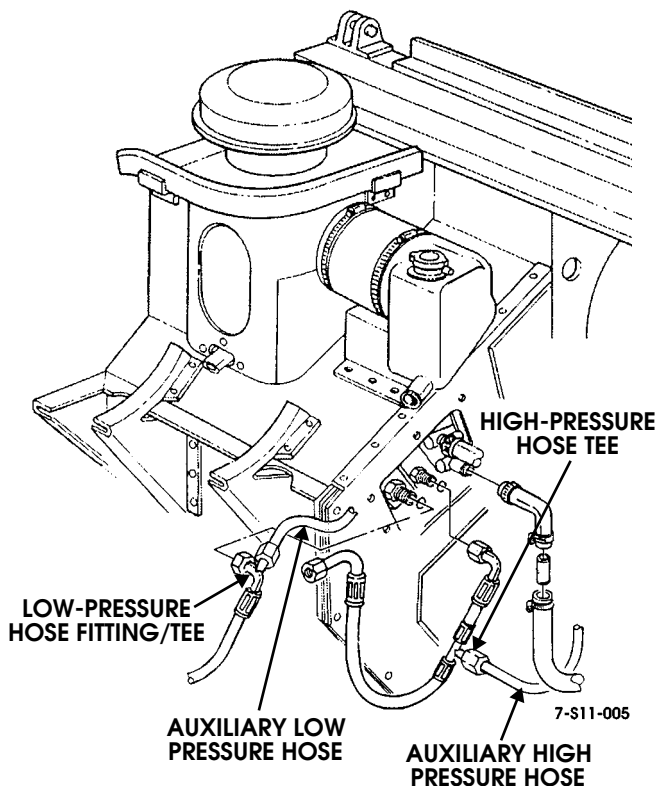

Figure 11-41: High Pressure Hose
5. Using two wrenches to equalize support, remove auxiliary high-pressure hose from high pressure hose tee. Remove and discard O-ring (Figure 11-41).
3. Route other end of hose to high pressure hose tee (Figure 11-41).
3. Using two wrenches for equalized support, remove auxiliary low-pressure hose from low-pressure hose fitting. Remove and discard O-ring (Figure 11-41).
4. Lubricate and position O-ring and secure auxiliary low pressure hose to existing low pressure hose fitting. Using two wrenches for equalized support, tighten to 24-28 lb-ft (33-38 N•m) (Figure 11-41).